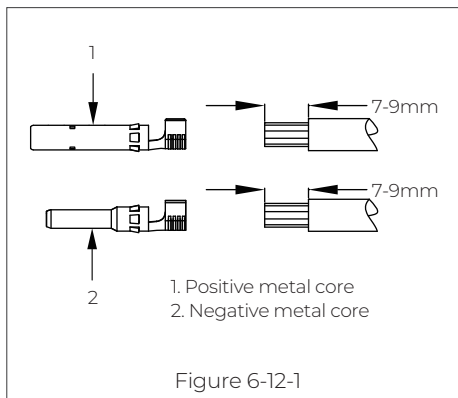

Figure 6-12-1
Step 2: Use wire strippers to peel off the insulation layer of the positive and negative power cables. For the specific stripping length, refer to Figure 6-12-1.